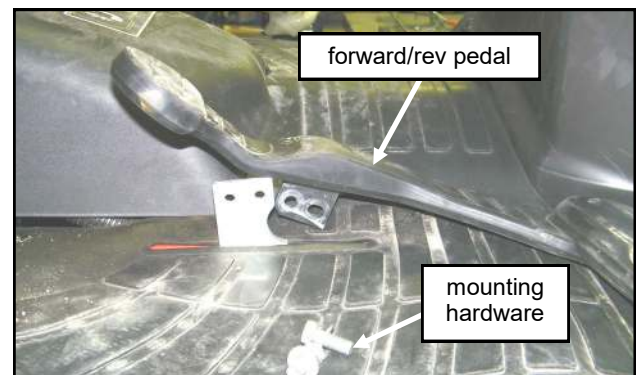

Fig. 2.2 (forward/rev pedal - right floorboard)
2.2 Remove the hardware from forward/rev pedal, set aside the pedal and hardware. See fig. 2.2. Peel back rubber mat.